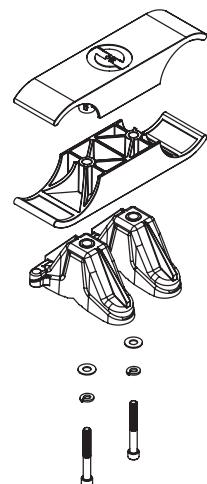

Figure 6
5. Place the **Bottom Tube Clamp** on top of the tubes and secure with **Mounting Clamp Assembly** and **3.5" King Bolt** as shown in **Figure 6**